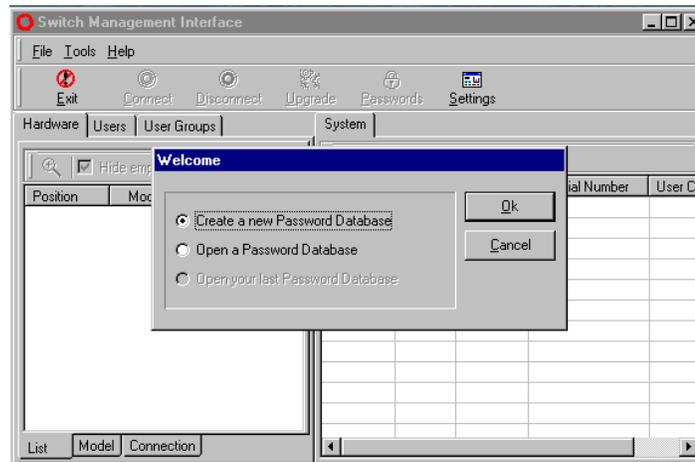

Figure 5.4. Startup screen
3. The following **Startup** screen appears. (see Figure 5.4 below)